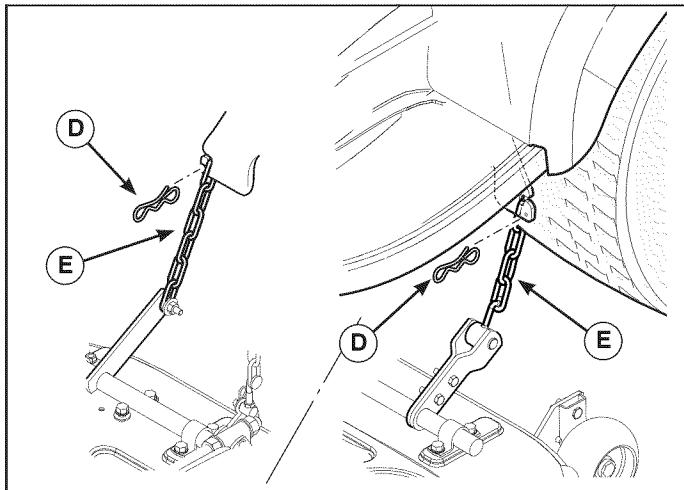

Figure 18
- Remove cotter pin (**D**, Figure 18) and disconnect the cutting height chain (**E**) from the hook in tractor frame. Repeat for the other side.
6. Connect the cutting height chain (**E**, Figure 18) to the hook in tractor frame and secure with cotter pin (**D**). Repeat for the other side.